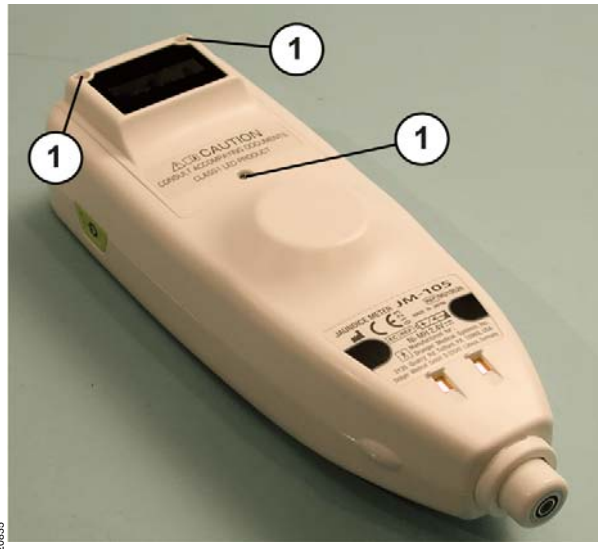

Fig. 8 Main body
1. Remove the three screws (Fig. 8/1) on the back of the main body.